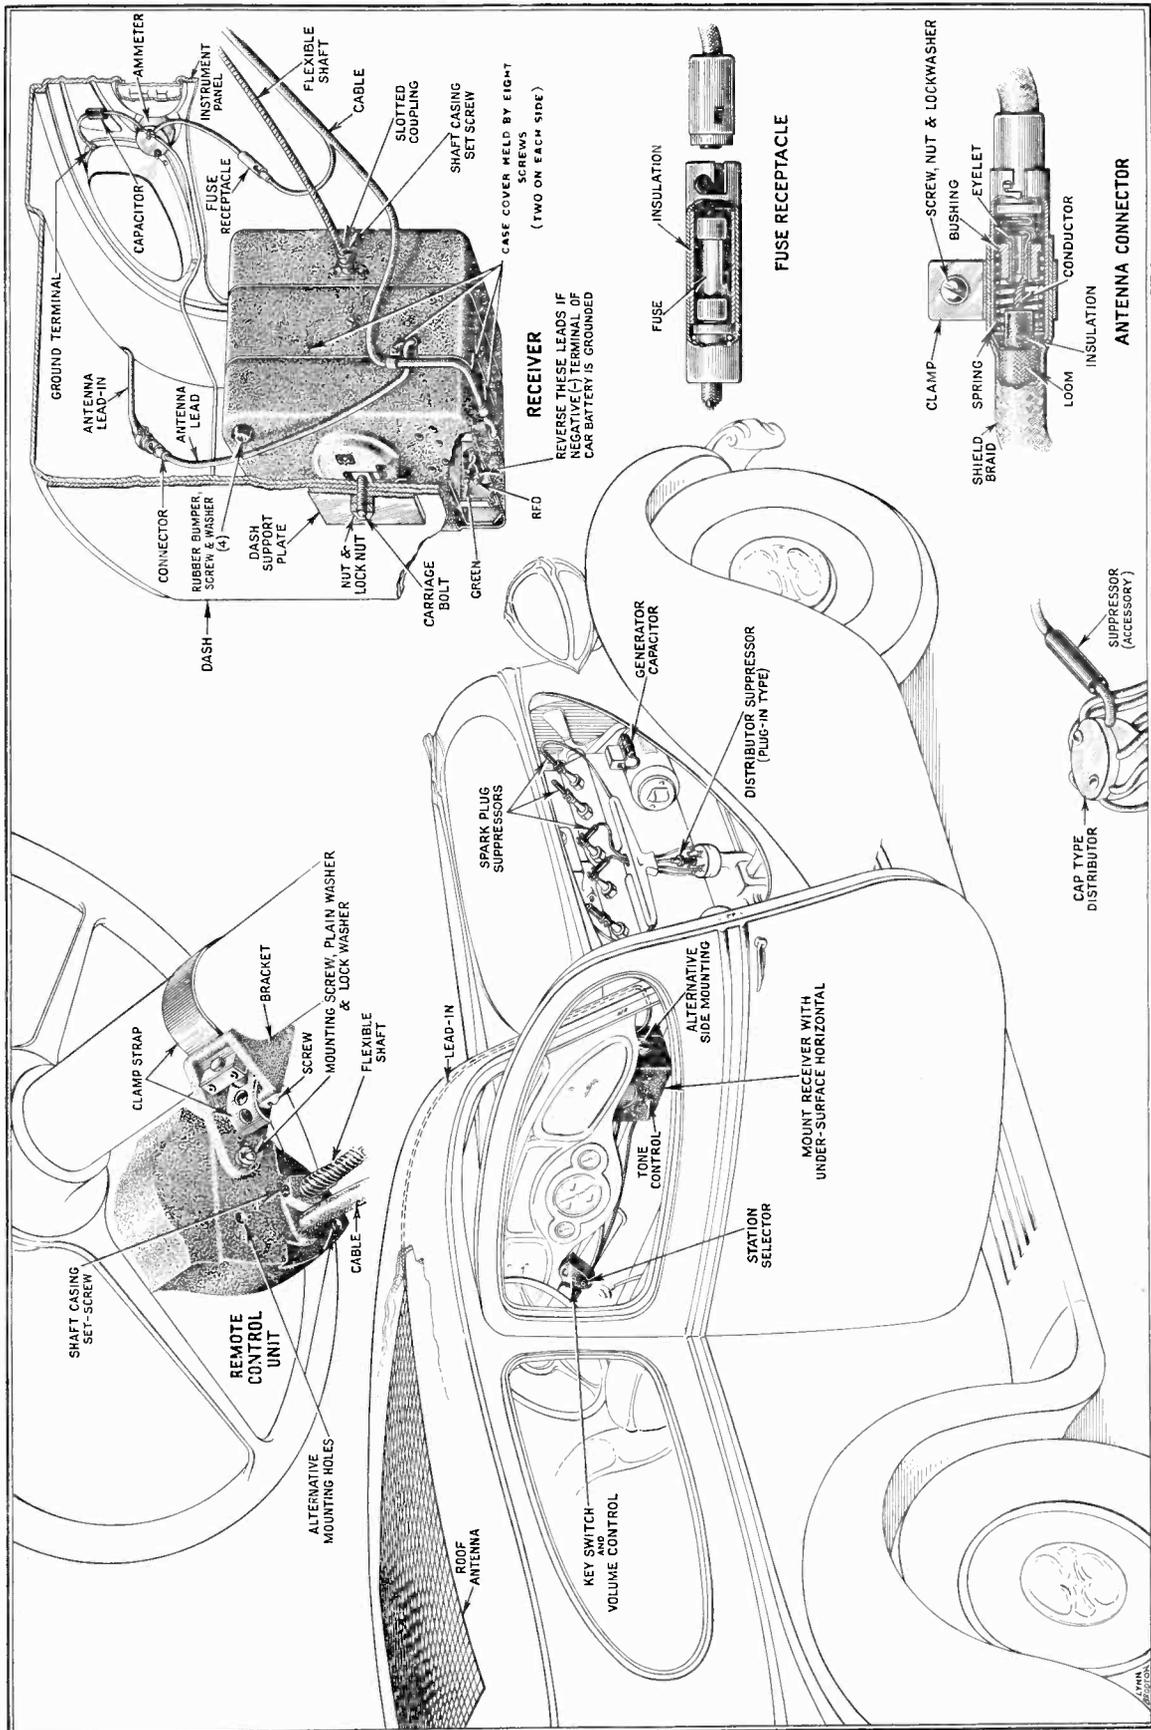

Figure 1
2. **CHECK POLARITY OF AUTOMOBILE STORAGE BATTERY SUPPLY.** If the negative (—) side is grounded to car frame, remove case cover and make changes to chassis connections shown in Figure 1. *Do not disturb these connections if positive (+) side is grounded.* (See details under "Mounting of Units"—page 5.) Replace case cover.
3. Determine most satisfactory mounting position (see details under "Location of Units"—page 4), spot mounting-bolt location and drill $\frac{1}{2}$ " diameter hole. Insert bolt through dash and assemble support plate and nuts on engine side. Install the four rubber bumpers on side of case chosen for mounting, then hang receiver over bolt head and tighten nuts. (See Figure 1 and details under "Mounting of Units"—page 5.)
4. Attach remote control unit to steering column by means of mounting bracket and strap. (See Figure 1 and details under "Mounting of Units"—page 5.)
5. Assemble flexible shaft to receiver and remote control unit. (See Figure 1 and details under "Mounting of Units"—page 6.) *Make sure that the set-screws are tightened firmly against both ends of shaft casing.*
7. Connect terminal at end of *black* lead from cable to binding-post of automobile ammeter (see Figure 1 and details under "Connections"—page 7). The ignition by-pass capacitor (equipped with two leads) should be installed at this time. (See Figure 1 and paragraph 4 under "Suppression of Ignition Interference"—page 7.)
8. Install spark-plug and distributor suppressors; also generator by-pass capacitor (see Figure 1 and paragraphs 1, 2 and 3 under "Suppression of Ignition Interference"—page 7).
Receiver and Remote Control Units—The arrangement of units shown in Figure 1 is recommended and will be found applicable to the majority of automobiles. Consideration should be given to the possibility of interference of the receiver with other equipment beneath the instrument panel or of the mounting bolt with apparatus on the engine side of the dash. By placing the receiver unit toward the right-hand side of the dash, the flexible shaft will be of correct length as furnished in practically all cases. This position, however, may be considered impractical because of its universal preference for heating devices, necessitating installation of the receiver unit either near the center or at the extreme left-hand side of the dash and the use of a shorter flexible